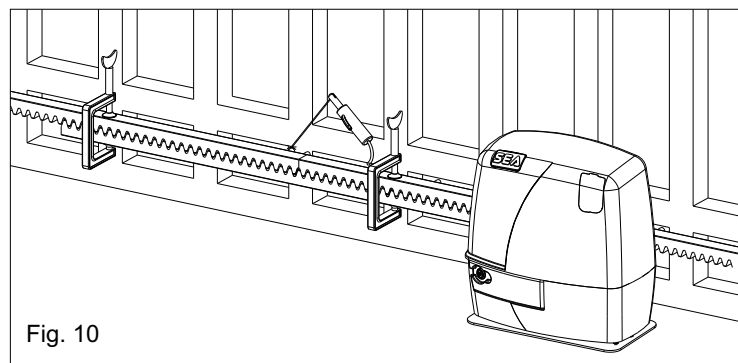

Fig. 10
5.4. Make sure that all the gear rack elements are perfectly aligned and placed correctly (teeth in phase). It's suggested to place two aligned elements in front of a third one as shown in Fig.10;